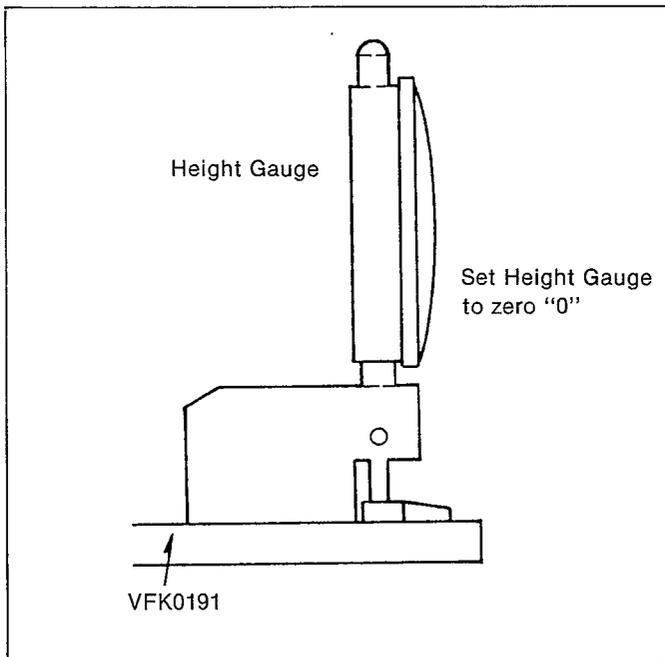

Fig. M16
4. Place the Reel Table Height Gauge on the Post Adjustment Plate and set the gauge to zero "0" as shown in Fig. M16.